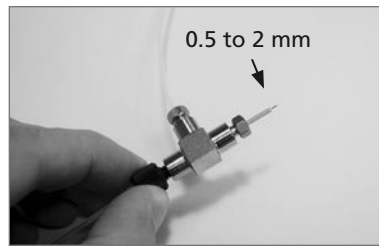

Figure 3 The tip of the emitter protrudes 0.5 to 2 mm past the PEEK™ nozzle.
- 2) Pull the distal end of the emitter through the sleeve until the tip protrudes 0.5 to 2 mm past the end of the PEEK nozzle, as shown in Figure 3. Tighten the nut to lock the tip in place and ensure a gas-tight seal.